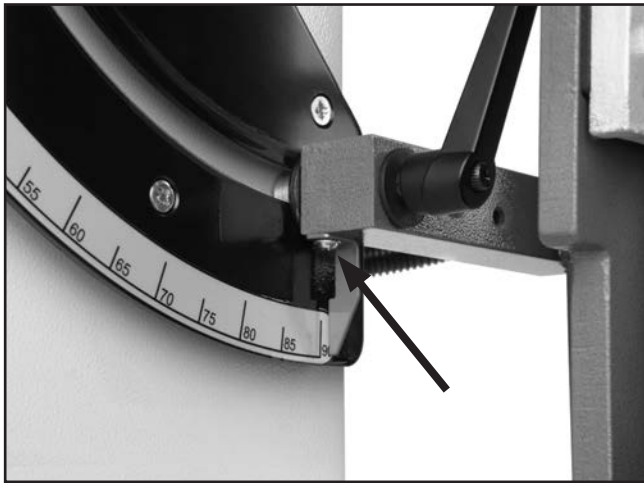

Figure 35. Angle indicator pin screw.
- Loosen angle indicator pin screw, shown in **Figure 35**, $\frac{1}{2}$ turn.